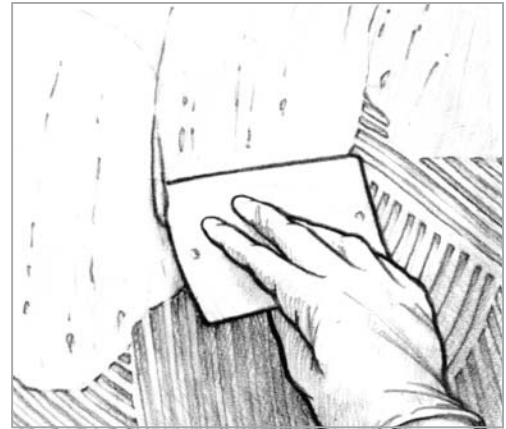

Figure 8 Trowel a second layer of fairing compound over the surface to fill the grooves after the ridges have been sanded fair.
7. Trowel a second layer of fairing compound over the surface to fill the grooves (*Figure 8*). Use a smooth-edged spreader held firmly against the surface. spreader away excess compound, leaving a smooth surface flush with the faired ridges. Mix the fairing compound for the second layer to the same density as the first layer. Allow the fairing compound to cure thoroughly.